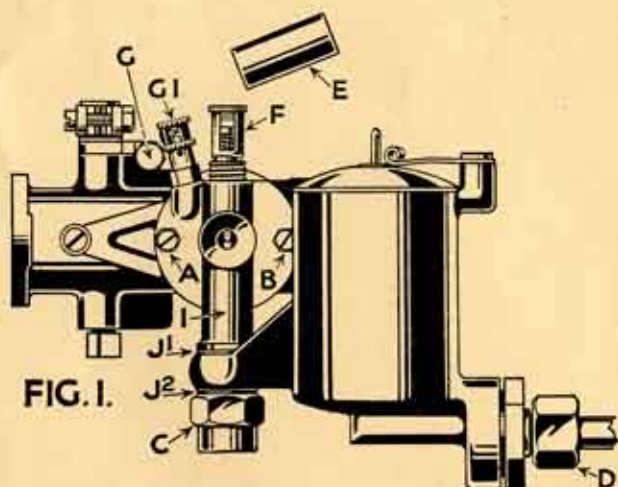

FIG. 1.
*See Illustrations, Figs. 1 and 2, on Folder